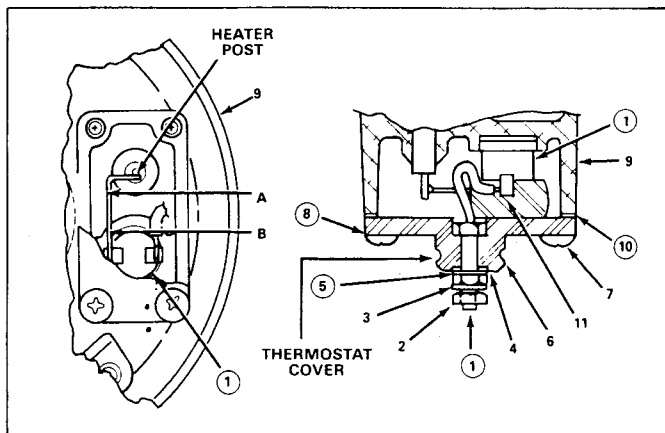

Figure 17
NOTE: If during the serviceability checks it was determined that the thermostat was defective, use the following procedure. It is not necessary to replace this unit each time the end cover is rebuilt. Use thermostat kit. (See Figure 17)
9. Remove nut(2), then lockwasher(3), plain washer(4) and O-ring(5). Discard O-ring and retain other parts.
10. Remove and retain four Phillips head screws(7) and cover(6).
13. Cut uninsulated thermostat wire at Point B. (Figure 17), remove and discard thermostat and terminal assembly(1).
16. Cut uninsulated lead of new thermostat(1) at Point A (Figure 17).
19. Install thermostat terminal(1) in cover(6).
20. Install O-ring(5), washer(4), lockwasher(3) and nut(2). Torque nut to 20-30 inch pounds.
21. Install spacer(11) over thermostat(1).
22. Install gasket(7) and cover(6) and secure cover to end cover(9) using screws(7) and lockwashers(8).
- A. At a temperature above 85°F. check resistance between thermostat terminal(1) and end cover(9). Resistance should be 200,000 ohms or greater; if not, check for solder "path" short.